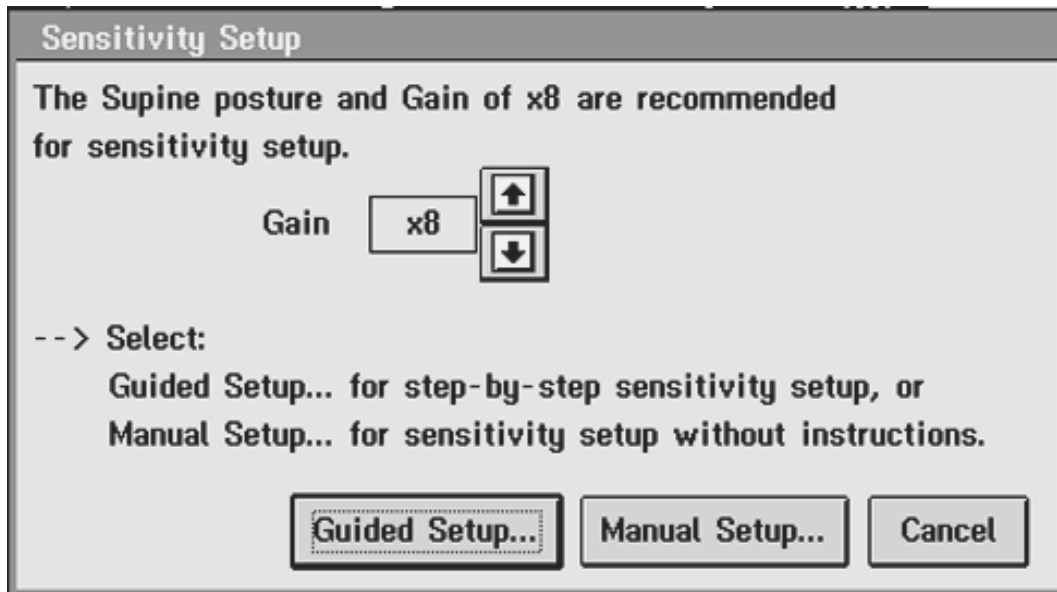
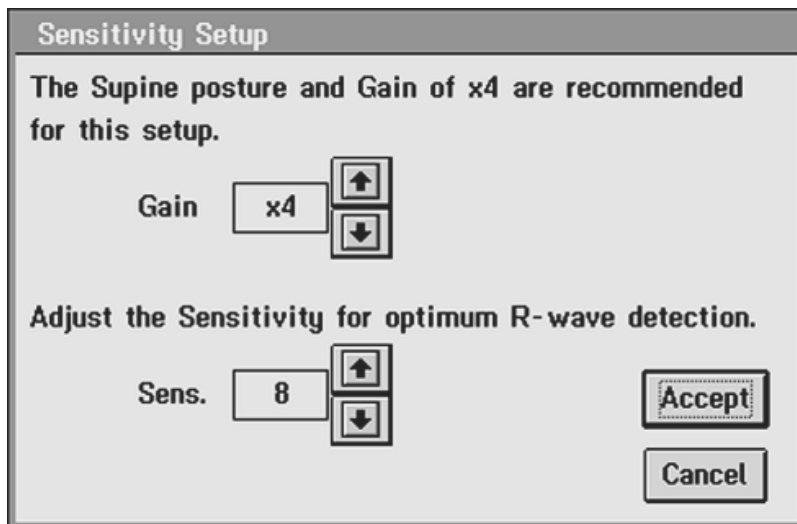

Figure 8. *Sensitivity Setup Selection - Guided or Manual*
Figure 16. *Manual Sensitivity Setup Screen*
5. Press **[Continue]**. The programmer displays a new “Sensitivity Setup” screen that indicates the recommended posture and gain setting (see Figure 8).
1. Select **[Manual Setup...]** from the Sensitivity Setup screen (Figure 8). The screen shown in Figure 16 is displayed.